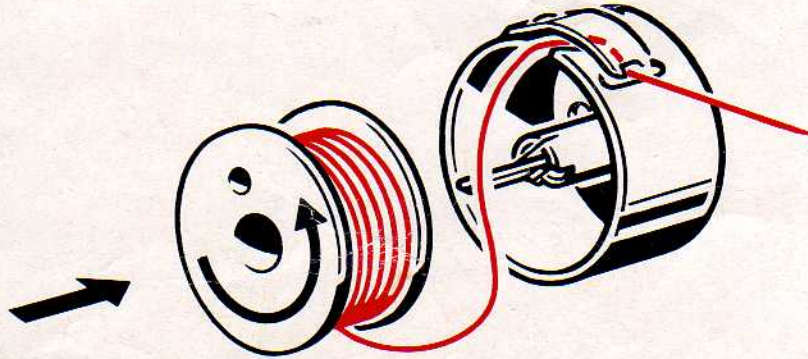

Fig. 2
REPLACE PARAGRAPH AND FIGURE 2 AT PAGE 6 WITH THE FOLLOWING :
**2. After bobbin has been filled, insert into case ( see Fig. 2 )**